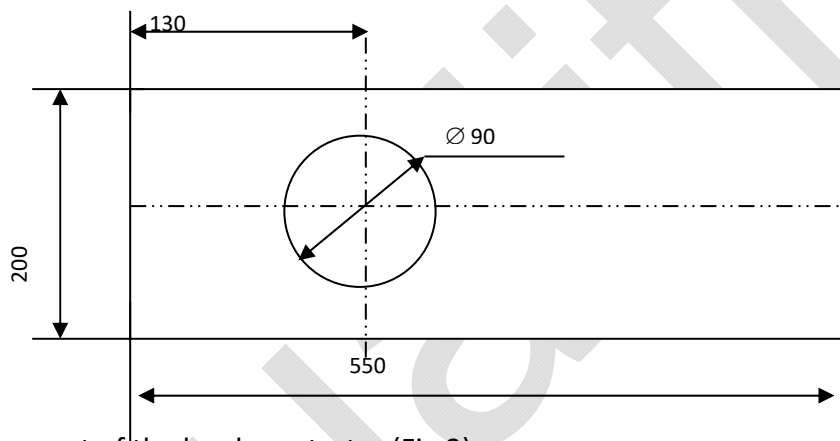

Fig.1
4.2.3 After unpacking, the hardness tester shall be placed on a stable working table horizontally, with horizontal deviation less than 1mm/m. A hole shall be drilled at an appropriate location on the working table (see Fig.1) to enable the Up and Down Lead Screw to operate properly. We suggest the height of working table should be about 500mm.